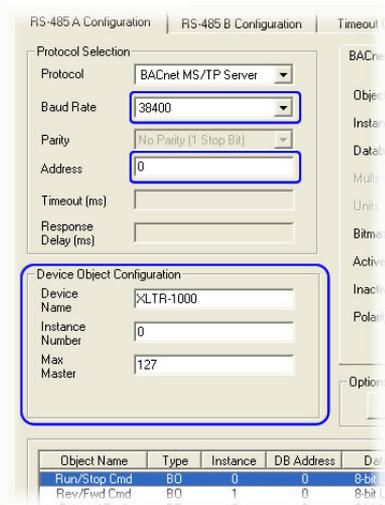
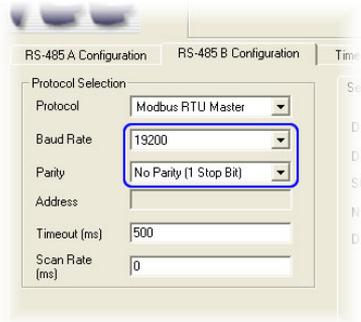

Figure 10: BACnet Configuration
Figure 11: Modbus Configuration
- Although a predefined configuration file is being used, some minimal amount of installation-specific configuration will still be required for each card. For example, each drive installed on a BACnet MS/TP network must be configured for the appropriate network baud rate, station address, and device object configuration values. This information is found on the “RS-485 A Configuration” tab (Figure 10). Similarly, it may be necessary to adjust the “RS-485 B Configuration” to match the drive’s parameter settings (or vice-versa). Specifically, the baud rate and parity settings (Figure 11) must match the drive’s settings for Sn-37 and Sn-38, respectively. Each Modbus master service object on the RS-485 B configuration tab is also embedded with a destination address, which is set to “1” in the predefined configuration files. So that every service object does not have to be modified, it is therefore recommended to set the drive’s “node address” parameter (Sn-36) to “1” (default setting).